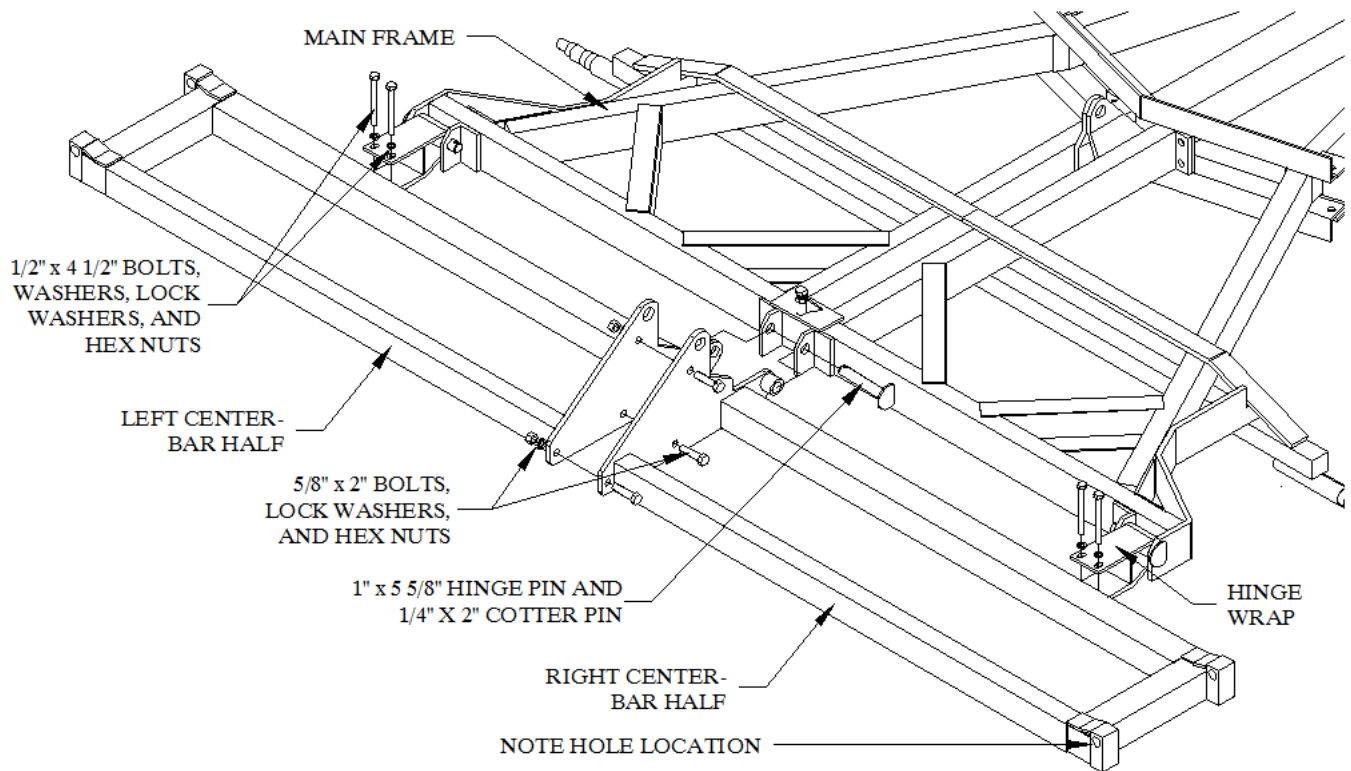

Figure 7
1. The center bar is shipped in two pieces. Bolt the halves together using four 5/8" x 2" bolts, lock washers, and hex nuts. Refer to Figure 7. Check the alignment of the halves before completely tightening the bolts.
The left and right wings can be identified by inspecting the hinges. Notice in Figure 7 that the hinge point is not centered, but rather is towards the top of the hinge and is nearly in line with the top edge of the center bar assembly. Figure 7 is a representation of the unit in the field position.